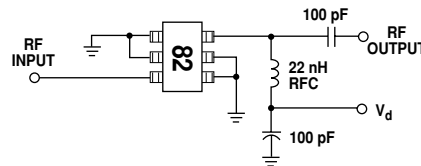
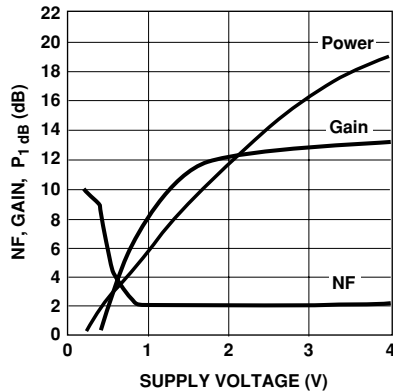

Figure 10. Test Circuit.
Figure 19. Gain, Noise Figure, and Output Power vs. Supply Voltage.
1. Guaranteed specifications are 100% tested in the circuit in Figure 10 in the Applications Information section.
The circuit shown in Figure 10 is used for 100% RF testing of Gain and Noise Figure. The test circuit is merely a 50 Ω input/output PC board with a RFC at the output to apply DC bias to the device under test. Tests in this circuit are used to guarantee the NF_{test} and G_{test} parameters shown in the table of Electrical Specifications.
mental response. This data was measured in the test circuit in Figure 10.
While the MGA-82563 is designed primarily for use in +3 volt applications, the internal bias regulation circuitry allows it to be operated with power supply voltages from +1.5 to +4 volts. Performance of Gain, Noise Figure, and Output Power over a wide range of bias voltage is shown in Figure 19. (This data was measured in the test circuit in Figure 10.) As can be seen, the gain and NF are fairly flat, but an increase in output power is possible by using higher voltages. The use of +4 volts increases the P_{1dB} by over 2 dBm.